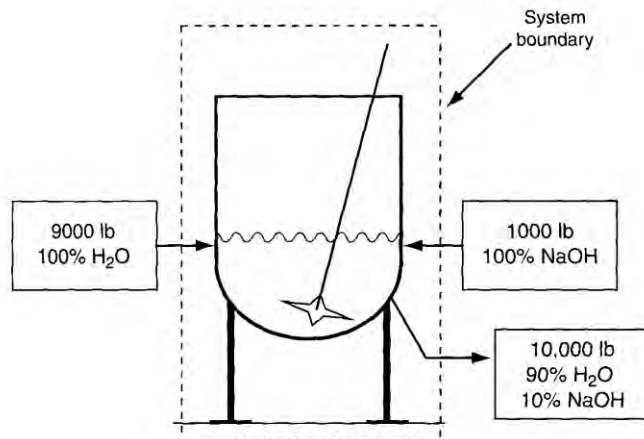

Figure 6.12 The batch process in Figure 6.11 represented as an opensystem.
- ◆ We can summarize the **hypothetical operation** of the **batch** as a flow system (opensystem) as follows (**Figure6.12**):